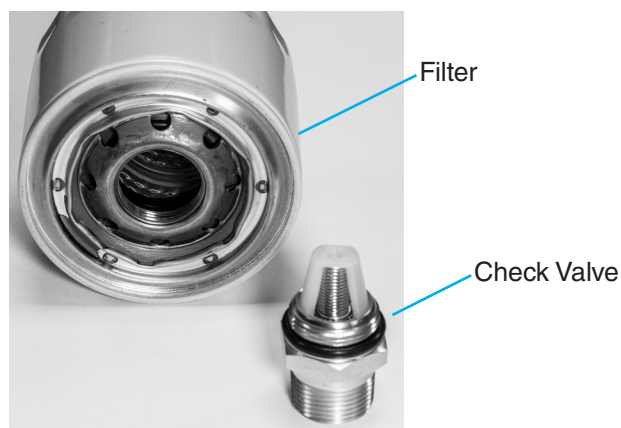

Figure 7 Breather Assembly
5. Remove the check valve. Discard the old filter in accordance with local regulations. See Figure 7.